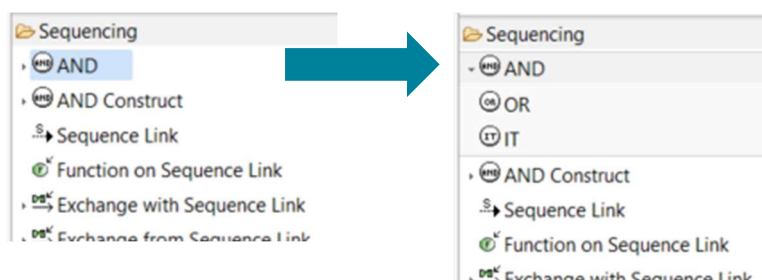

Figure 6 Control Nodes Palette
- To insert control nodes, first click on the small triangle before AND under Sequencing to show AND, OR and IT nodes as shown in Figure 6.